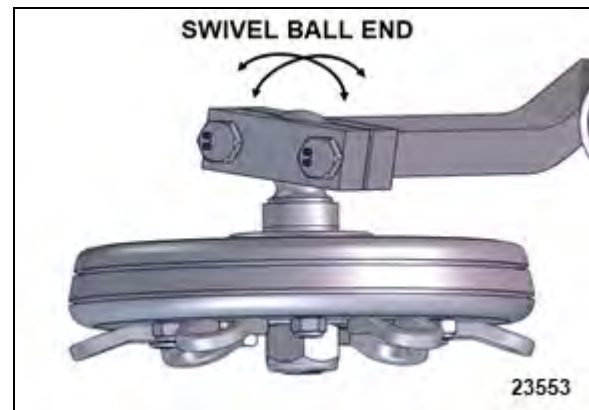

FIGURE 38: WHEEL ANGLE ADJUSTMENT
- Chain wheel operating angle should be between 5 to 10 degrees (use angle gage) and the chain wheel must contact the tire between the two horizontal lines marked in steps 2 and 3 above. To adjust the wheel angle, slightly loosen the two (2) ball stud clamp screws and move the wheel to the desired position (FIGURE 38).